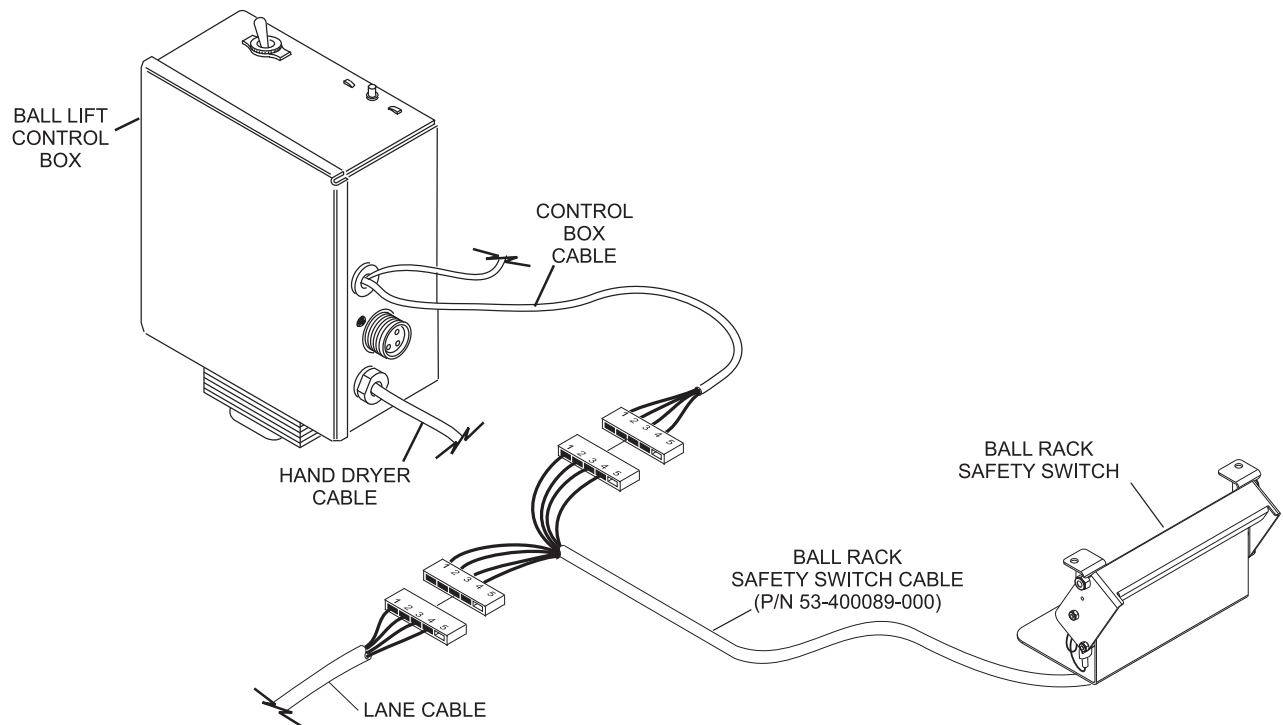

Figure 9
8. Install the safety switch, (P/N 53-400089-000) by connecting it to the control box and the automatic pinsetter. Refer to *Figure 9*.